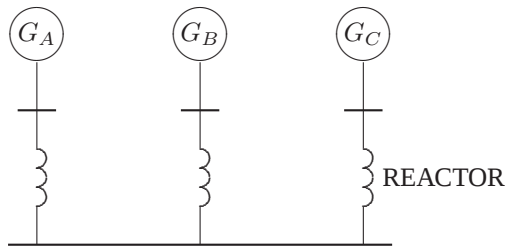

FIGURE 83
10.11. Three 15-MVA, 30-kV synchronous generators A, B, and C are connected via three reactors to a common bus bar, as shown in Figure 83. The neutrals of generators A and B are solidly grounded, and the neutral of generator C is grounded through a reactor of $2.0 \text{ } \Omega$. The generator data and the reactance of the reactors are tabulated below. A line-to-ground fault occurs on phase a of the common bus bar. Neglect prefault currents and assume generators are operating at their rated voltage. Determine the fault current in phase a .